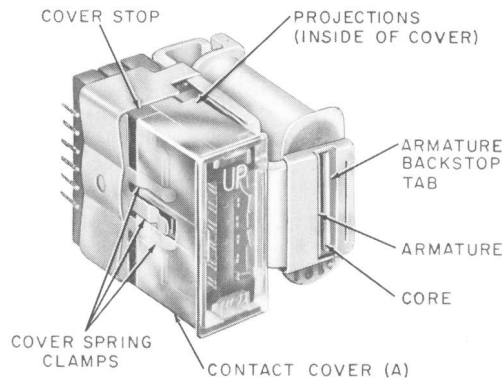

Fig. 1—6-Position Relay (BF-, BG-, BL-Type)
2.02 Contact Cover Tightness [Fig. 1(A) or 2(A)]:—The contact cover shall be firmly held in place but shall be sufficiently loose to permit removal with the fingers.
2.03 Contact Cover Clearance [Fig. 1(A) or 2(A)]: With the contact cover positioned against its stops, there shall be clearance between the cover and adjacent moving parts.